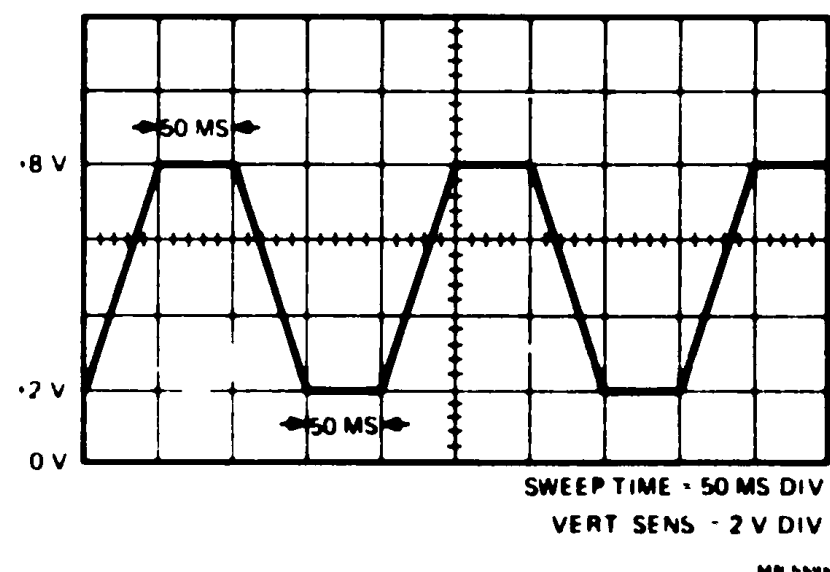

Figure 4-1 Ramp Test Signal at TPX on the A017 Module
- Adjust the channel 0 "X" **GAIN** and **OFFSET** potentiometers on the A017 module to obtain the signal shown in Figure 4-1.